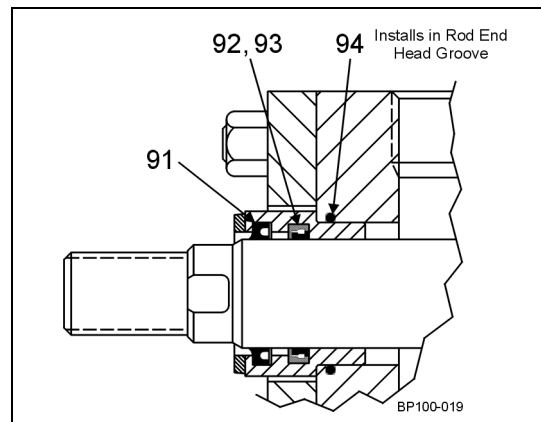

Figure 2 - Head End O-ring Seal
Head lock pressure switch (PS2) (Figure 2, item 54) sets pressure needed to activate head lock pilot solenoid valve (SOL-7) (Figure 2, item 46) and locks head in place. Head lock pressure switch is located under table behind filter.
8. Install wiperseal (Figure 2, item 91) in groove closest to end of gland.
9. Slightly collapse backup washer (item 93) and install lipseal (item 92) in seal groove. Ensure wiperseal is flat against wall of groove. Lips of seal should point toward long bearing side of gland.
3. Thread gland into retainer until seated firmly against head. Gland-to-head o-ring (Figure 2, item 94) serves as a torque prevailing lock.